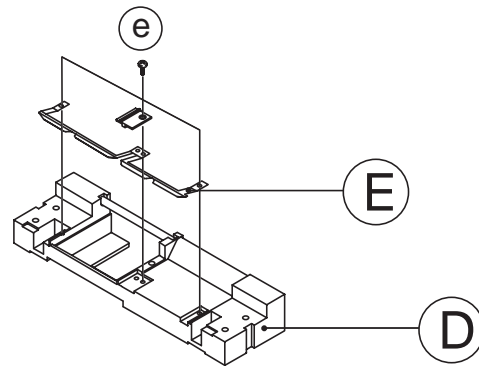

Figure 4-4. Platen Guide Removal
1. Before inserting ribbon cassette②, turn knob① (see Figure 4-4) counterclockwise to prevent twisting the ribbon.
2. After inserting the ribbon cassette② at the center③ of the printer, turn the knob ① counterclockwise again to make sure the ribbon moves freely in the cassette
5. Remove the left-side screw, , on the Platen Paper Guide, E. This screw connects the Platen Paper Guide Assembly E, -to Stamp Paper Guide Assembly, D. See figure 4-4, below.
1. Position the Platen Paper Guide Assembly, E, on the Stamp Paper guide Assembly, D, and replace the screw - (e) (see Figure 4-4, above).